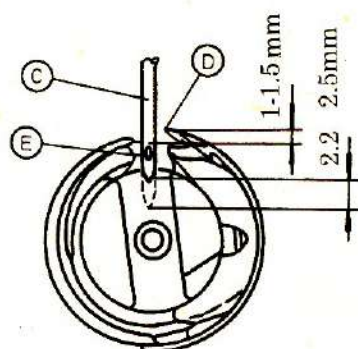

Fig.23
(2) Timing adjustment of the needle to the rotating hook (fig 23)
① The hook point must reach the centreline of the needle bar (i.e. the hook point coincides with the centreline of the needle);
② At this position the hook point should be 1—1.5 mm higher than the upper edge of the needle's eye (fig 23).